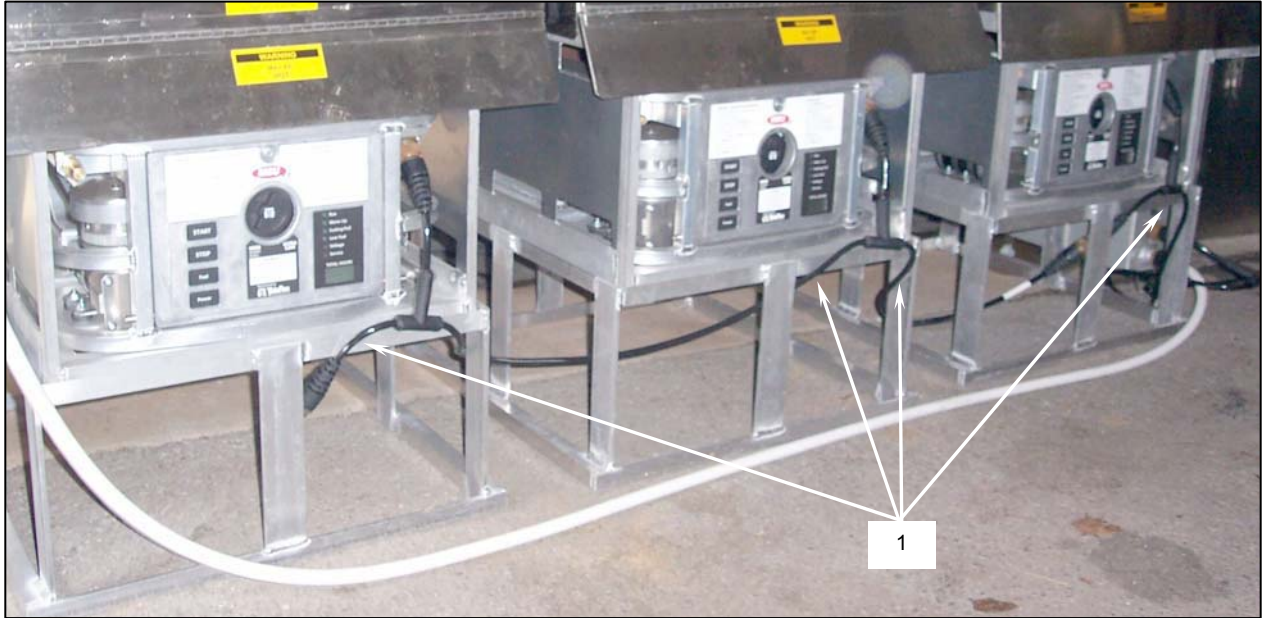

Figure 23. Cable Drip Loops.
- u. Make sure that the cable at each connection is lower than the connection (**Figure 23, Item 1**), creating “drip loops”. Drip loops allow water that may fall on the cables or condensation that may form on the cables to run down the cables and away from the connections.